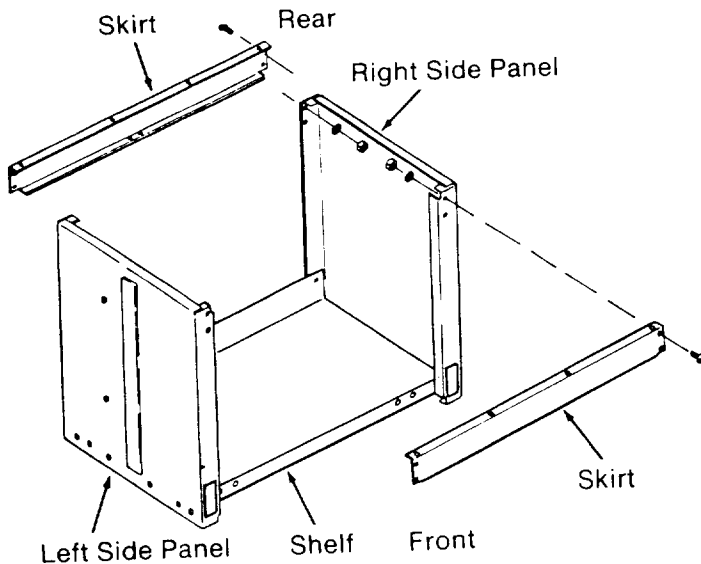

Fig. 19
21. Turn the *cabinet* right side up. Attach the *skirts* to the top of the *side panels*, with one on the front of the cabinet and the other on the back. (Figure 19)
22. Use eight truss head bolts, lockwashers, and hex nuts to hold the *skirts* in place. Hand-tighten. (Figure 19)